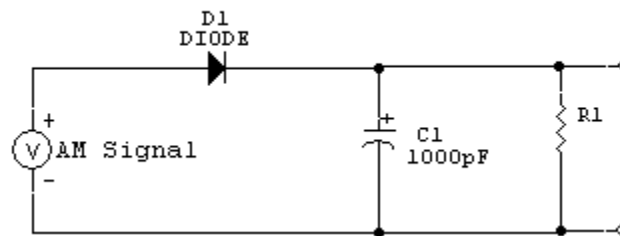

Fig.8.2. Amplitude Demodulation
- 2) Connect the demodulating ckt of Fig 8.2 at the output of modulating circuit of Fig 8. 1. Record the demodulated signal. Check the frequency of demodulated signal and compare it with the original signal frequency. Trace the modulated signal (trace should be of the same frequencies as above in step 1 for easy comparison).